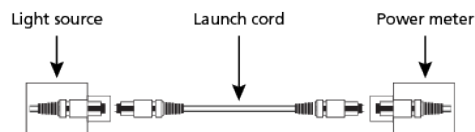

Figure 7. Set the reference
1. Set a reference between the light source and power meter using the launch cord (see Figure 7).